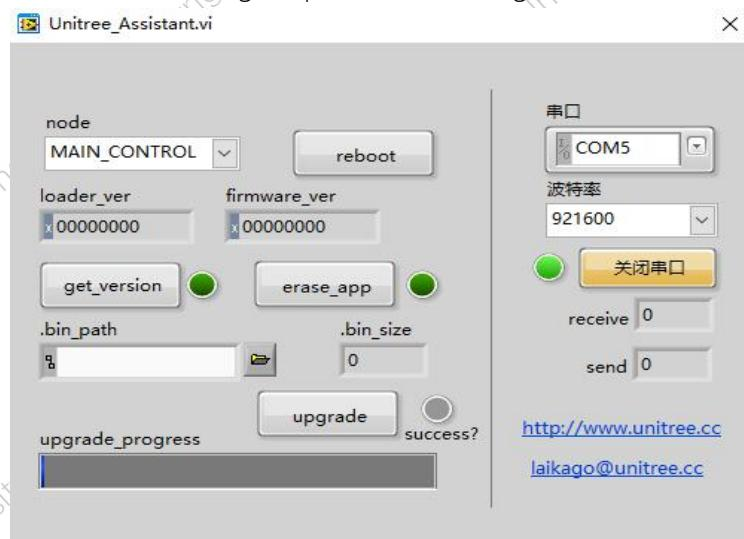

Figure 4 Interface after successfully opening the serial port
2. After connecting the serial cable, return to the "Unitree_Assistant.vi" interface, select the corresponding serial port number in the "Serial Port" option on the right side, select the 921600 baud rate, and then click the "Open Serial Port" button. If the serial port is normally open, Then the indicator light next to the button will light up, as shown in Figure 4.